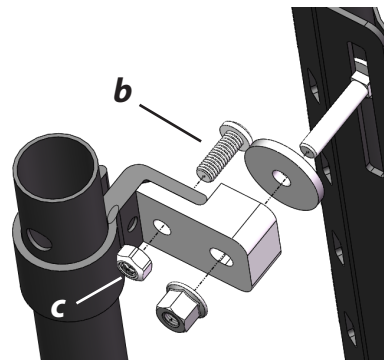

Figure 2
1. Mount the four adapter blocks using the screws (**b**) and nuts (**c**) according to figure 2.